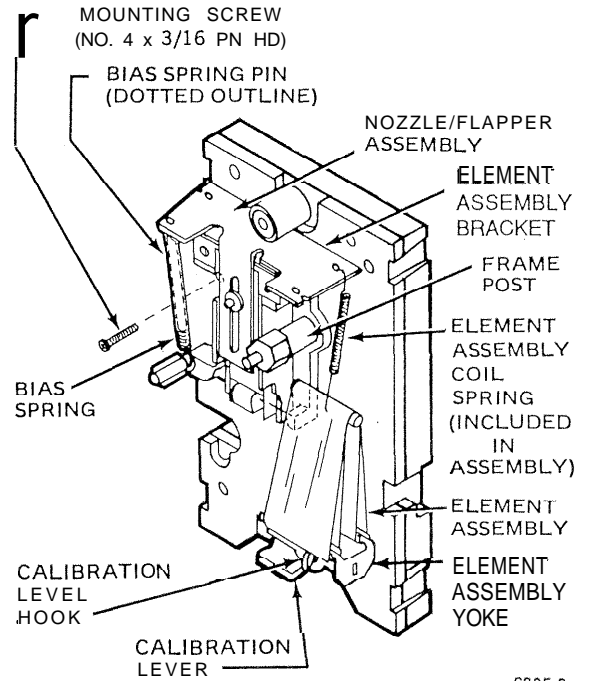

Fig. 10. Humidistat with Scaleplate and Setpoint Cam Assembly Removed Showing Element Assembly and Nozzle/Flapper Assembly.
- 2 Unhook the coil spring of the element assembly bracket (Fig. 10).
- 2 Unhook the coil spring of the element assembly from the nozzle/flapper assembly bracket (Fig. 10).